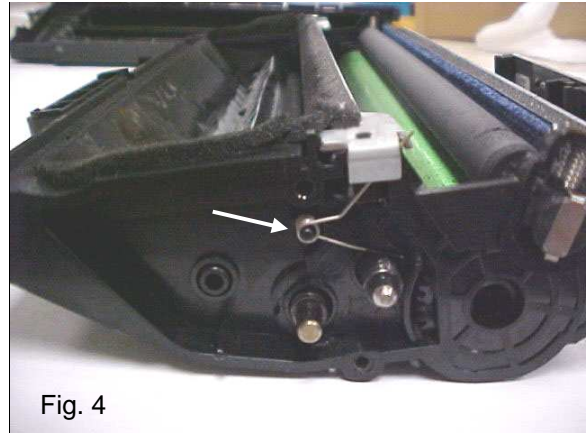

Fig. 4
4. Use needle nose pliers to remove the contact spring. Notice the spring configuration (Fig 4).